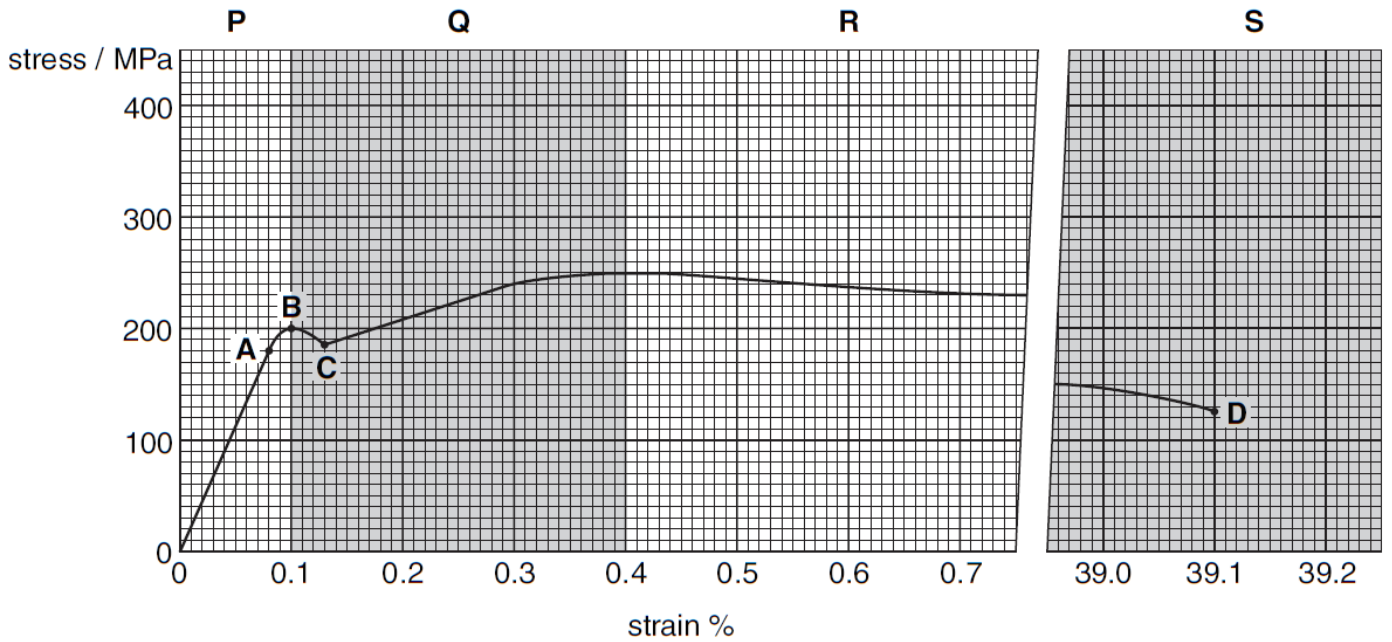

Fig. 8.1
A sample of mild steel is tested in the laboratory. Fig. 8.1 shows the stress versus strain graph obtained when a bar is stretched in a tensile testing machine.
- (i) Draw on the axes of Fig. 8.1 a line that helps you to estimate the permanent strain of the mild steel bar after the stress is removed.